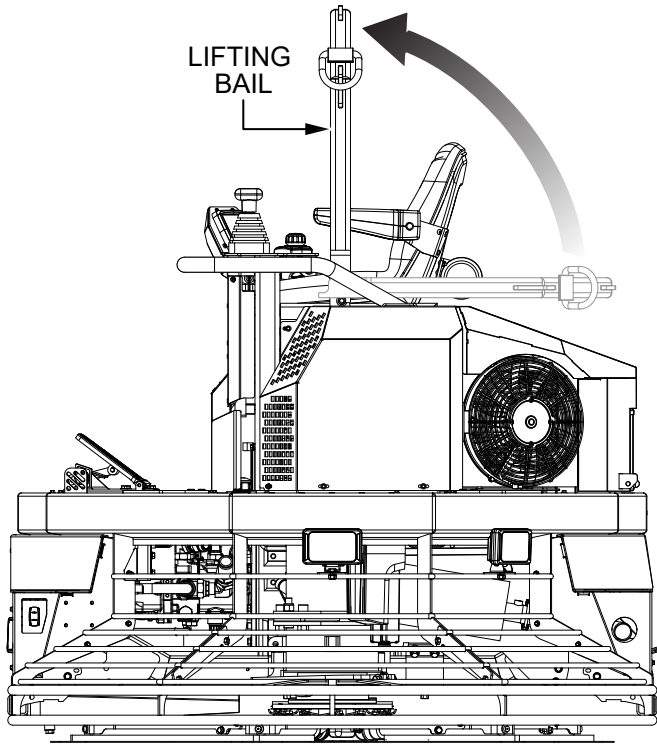

Figure 6. Lifting Bail (Upright)
1. Make sure the lifting bail is in the upright position (Figure 6).